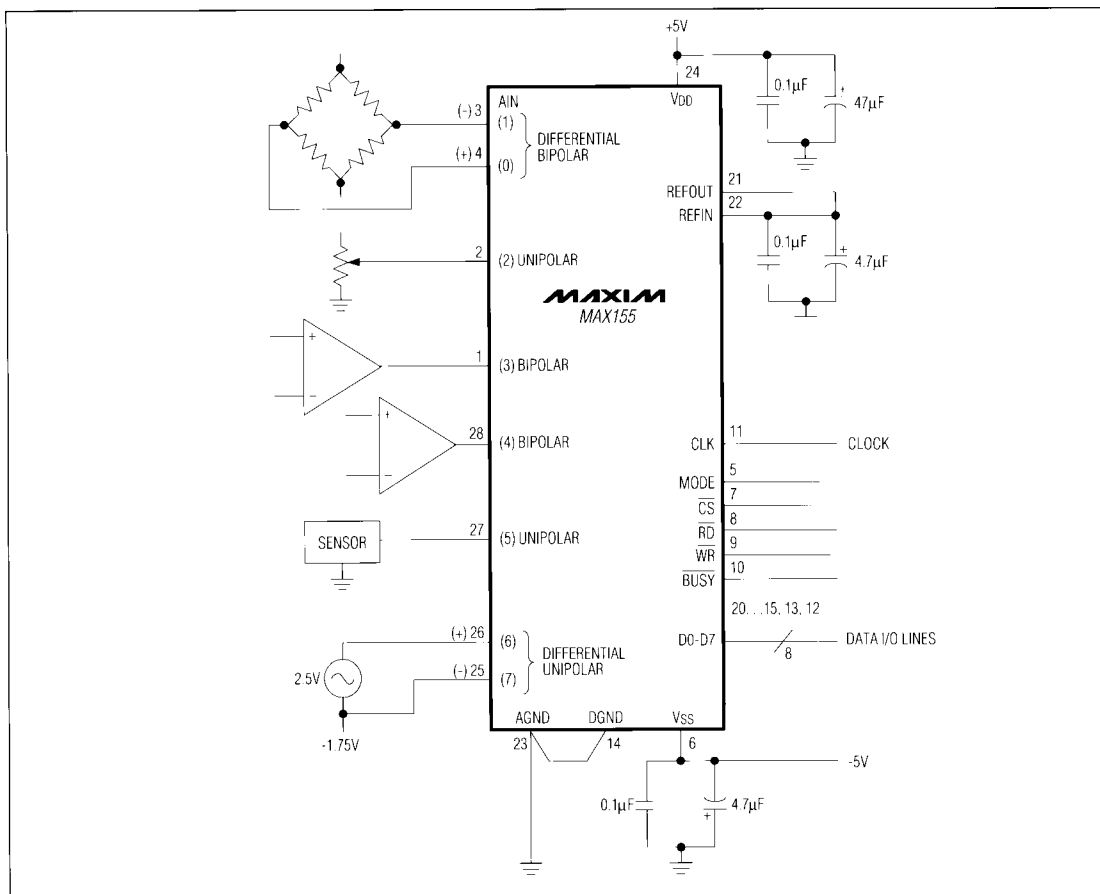

Figure 10. MAX155/MAX156 Typical Operating Circuit
3. Data is read from RAM with $\text{INH} = 1$ and consecutive RD strobes. Note that in the 6 channel configurations described in this example (Figure 10), 6 RD pulses access all available data, starting with the differential channel (1,0). Additional RD pulses loop around, accessing the lowest channel data again.